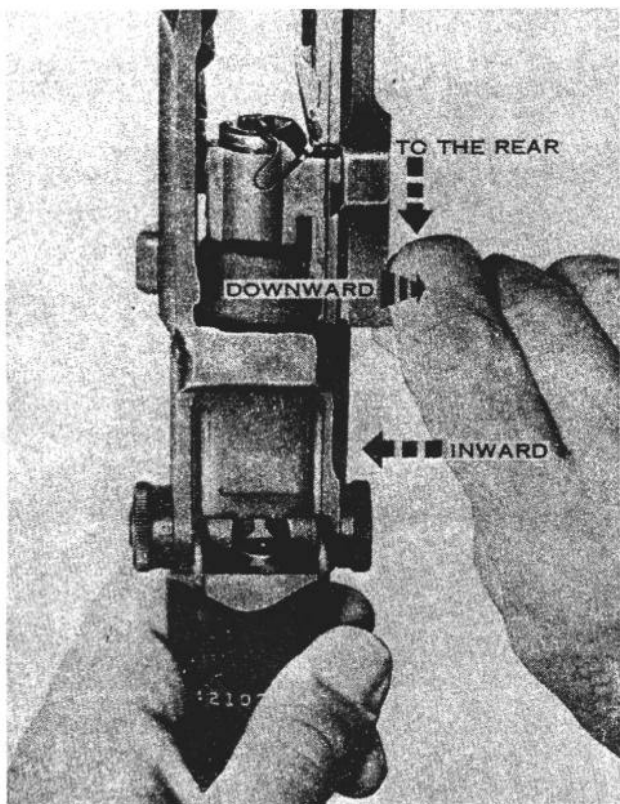

Figure 11. Replacing the operating rod.
d. To replace the operating rod, hold the handle with the right hand and place the piston end into the gas cylinder. Aline the operating rod so that the recess in the hump fits over the operating lug of the bolt. While applying pressure downward and inward on the handle, pull the operating rod to the rear until the guide lug is engaged in its groove (fig. 11). Move the operating rod forward until the bolt is closed.